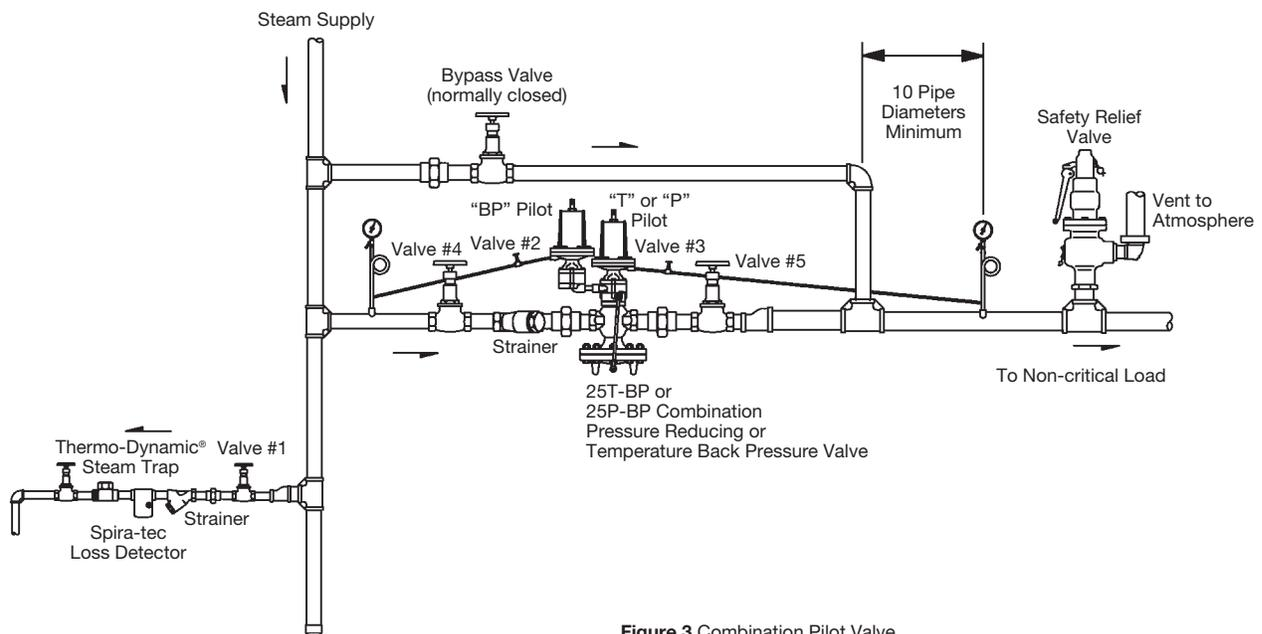

Figure 3 Combination Pilot Valve
See Figure 3 for typical hookup. This valve, while either controlling the downstream steam pressure to a piece of equipment with a 'P' Pilot or controlling the temperature of a secondary fluid with a 'T' Pilot, will also automatically shut off the steam supply should the incoming steam pressure fall below the setting of the 25BP pilot.
1. First, make certain all stop valves are closed (3 through 6). Valve #2 on Figure 3 is not installed since there is no downstream sensing line.